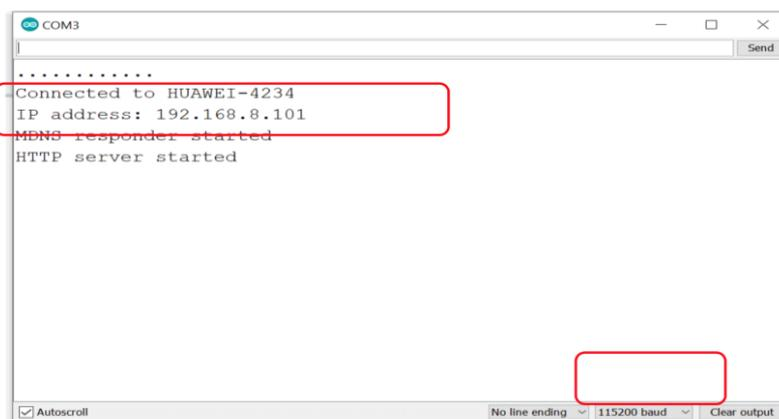

Figure A4
8. Open Arduino IDE Serial Monitor and set the baud rate to 115200 baud as shown in Figure A4.